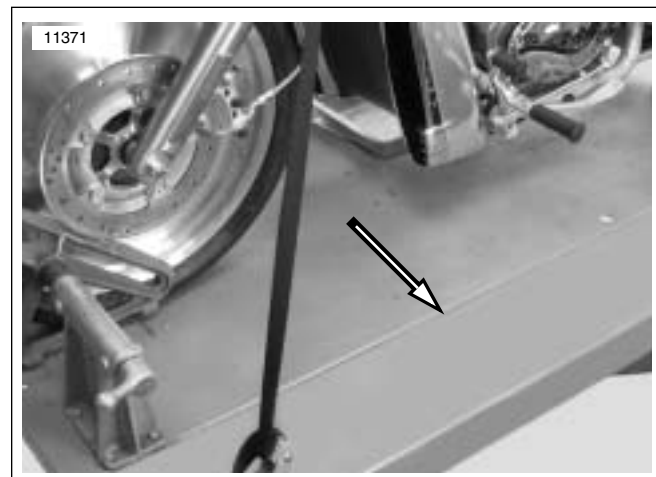

Figure 2-14. Lift Side Extension (typical)
- See Figure 2-14. On a table lift with a lift side extension, position a scissors jack under the fuel tank.